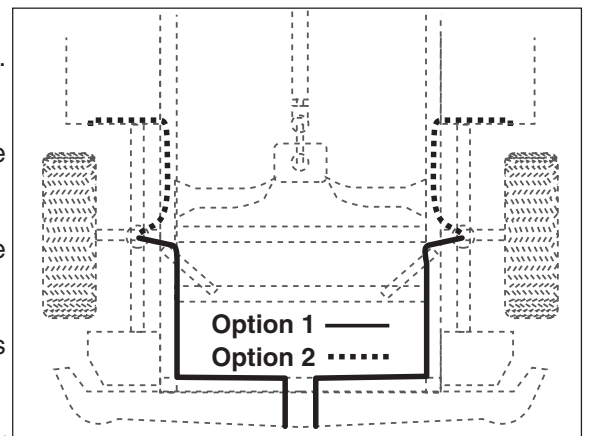

Figure 8
1. Select a location for the inflation valves in the rocker panel flange, or rear bumper, assuring that each valve will be protected and accessible with an air hose (Figure 8).